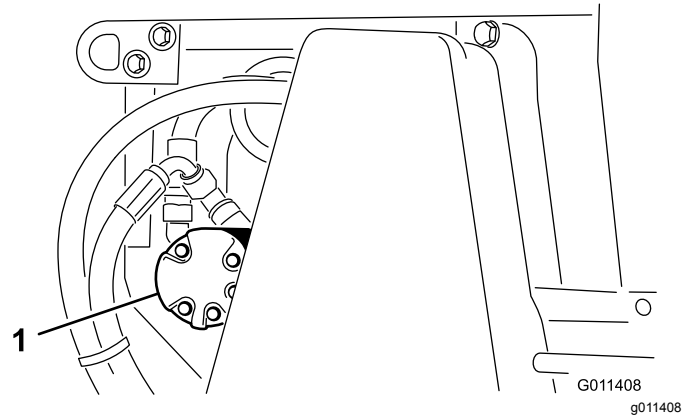

Figure 23
2. Loosen the nuts securing the brush motor (Figure 23) to the left side of the machine.